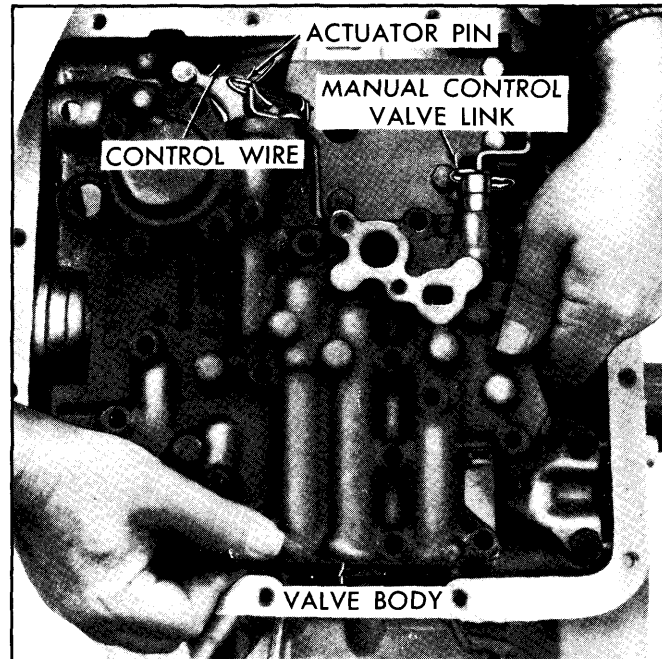

Fig. 7-19—Removing Manual Control Valve Link, Valve Body and Detent Actuating Lever
2. Remove actuator pin from detent actuator valve lever and remove control wire. (Fig. 7-19)
3. Remove manual control valve link from range selector inner lever and remove valve body. (Fig. 7-19)